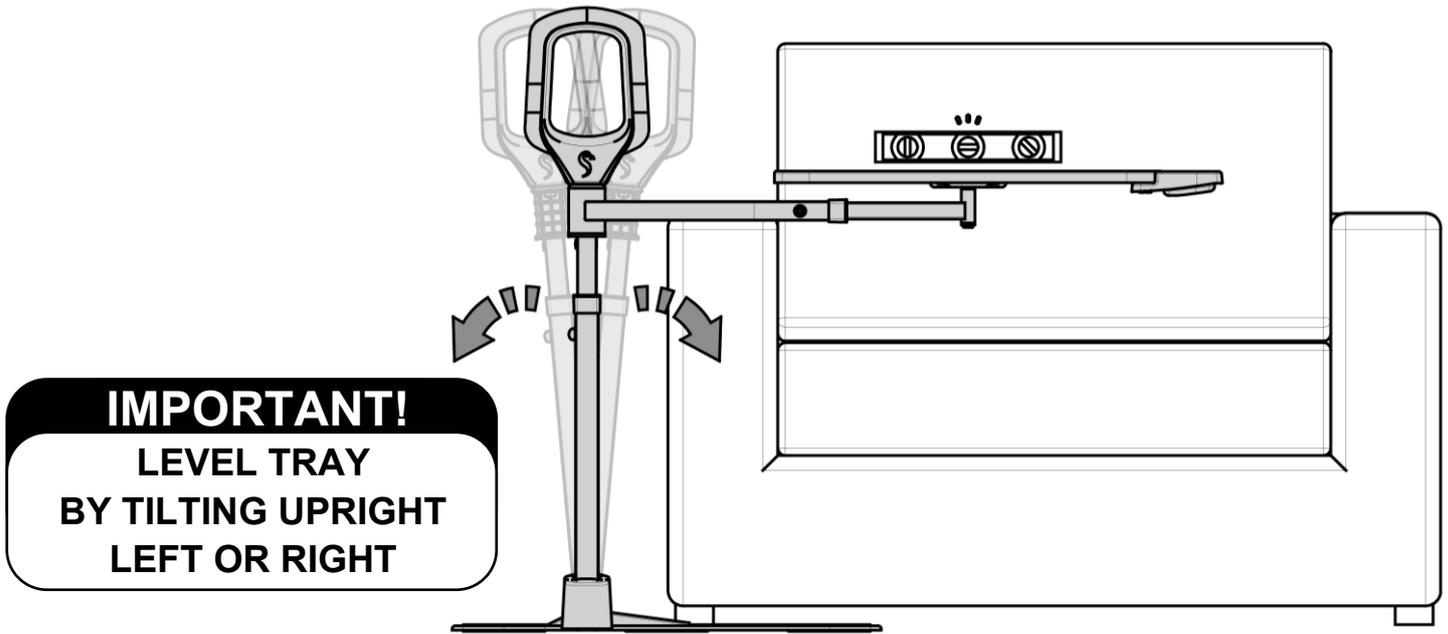

FIGURE 15
15. Level Tray as shown in *FIGURE 15*, by moving Upright, not Tray.